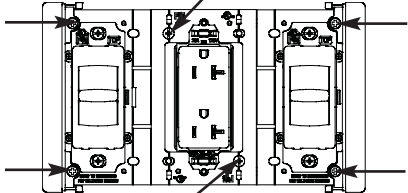

Figure 4 / Figura 4 / Figure 4
4. Wire the device per the manufacturer's instructions and install the devices in the wall box using the mounting screws provided (leave mounting screws "finger tight" at this point). (See Figure 4.)